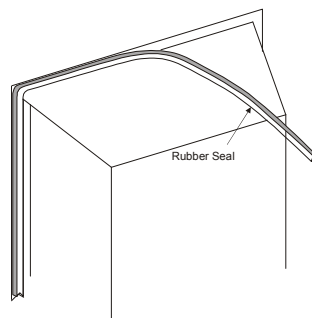

Figure 52
3. Apply the sealing strip around the rear edge of the firebox flange. See **Figure 52**. (**Do Not** apply this sealing strip if installing the fire with Freedom Surround)